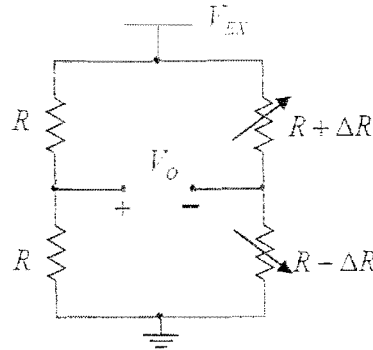

Fig. Q.3b
- (b) For the strain gauge sensor bridge circuit shown in Fig. Q.3b, show that
- (d) A weigh bridge is made up with two matching strain gauges as shown in the bridge circuit of Fig. Q.3b. The strain sensitivity of each strain gauge is given as 0.62 microstrain per kg ( $\mu\epsilon/\text{kg}$ ) and the gauge factor is 2.1. For a bridge excitation voltage of 12 V, determine the sensitivity of the bridge circuit to mass (i.e. in  $\mu\text{V}/\text{kg}$ ). (6 marks)